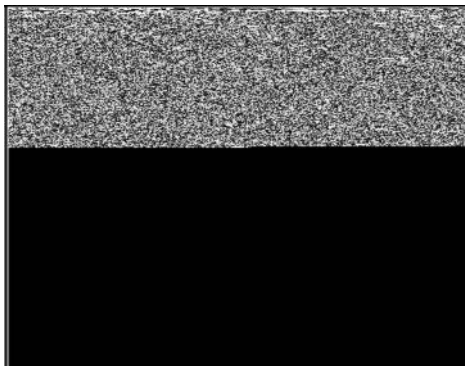

Figure 30
2. Install new foam seal (**B**, Figure 30) on choke shaft (**E**), then slide shaft into carburetor body (**C**). Rotate shaft clockwise (**A**), and insert choke valve into slot until centered, with dimples (**D**) positioned as shown. Actuate the choke shaft to check for proper movement.